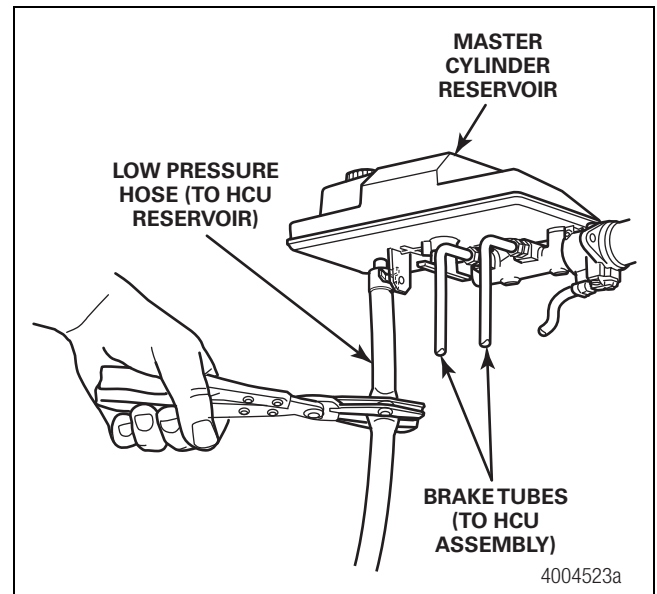

Figure 3
7. Attach a pinch clamp to the low pressure hose near the outlet of the master cylinder reservoir. Do not damage the reservoir outlet. Figure 3.